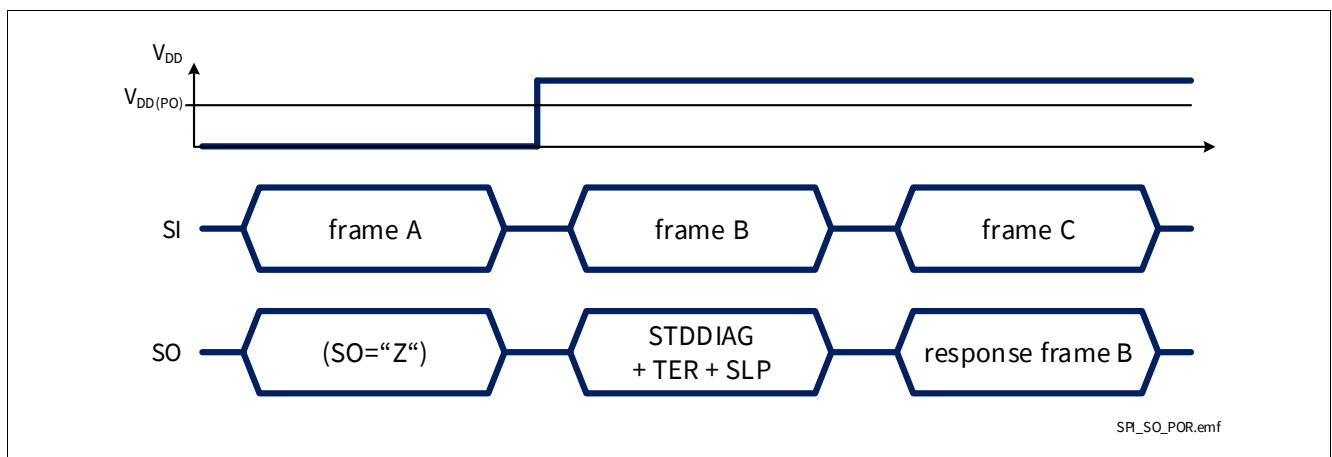

Figure 44 SPI response after coming out of Power-On reset at V_{DD}
- When BTS71040-4ESP digital supply comes out of Power-On reset condition, as shown in Figure 44